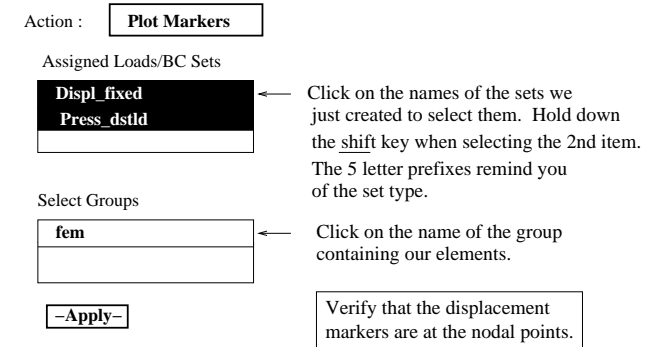

Figure 29: Plot Markers
- Choose ◇ **Loads/BCs**. Choose the 'Action' Plot Markers (**Figure 29**). Click on the name of the set **Displ.fixed** to select it, from the box marked 'Assigned Load/BC Sets'. Then hold down the **shift** key and click on the name of the set **Press.dstld** to select it as well. From the 'Select Groups' select 'fem'. Then click on the 'Apply' button.